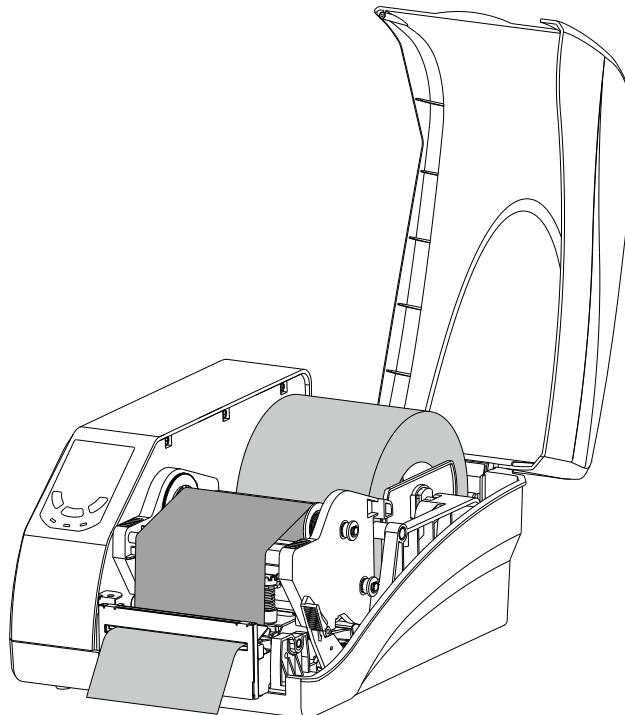

Figure 3-5 Cutter Mode
3. Turn off the printer. Load consumables referring to operations under Standard Mode. Thread the media through the opening on the cutter as shown in Figure 3-5.